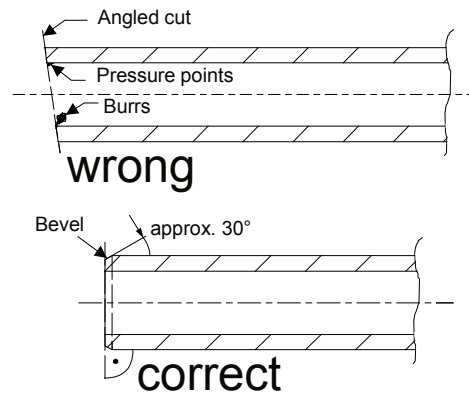

Fig. 20 Cutting the tubes
- The tubes must be cut to size using a pipe cutter. In doing so, ensure that the cut is at a right-angle to the tube axis. Remove any projecting burrs, **Fig. 20**.
- The ends of the individual tube pieces are to be bevelled slightly using a suitable tool, e.g. slightly bevel with a pipe scraper, **Fig. 20**.